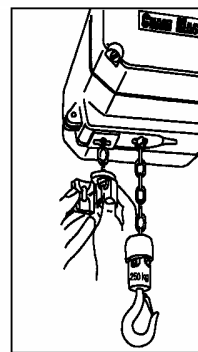

Figure 14 (step 7)
7. Fix lift limiter* approx. 50 cm before the chain end (Figure 14). Fix the lift limiter for oversize chain bags in a way that the distance of the lift limiter to the chain end equals the height of the chain bag.